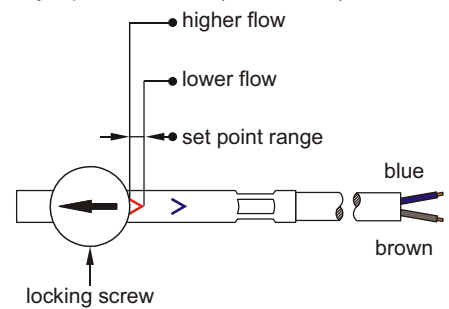
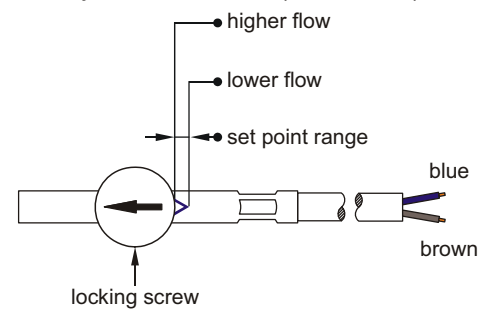

Fig. 20
Fig. 21
- ✎ Subsequently position the switching unit until the red (Fig. 20) or the blue arrow (Fig. 21) are visible at the entry of the switching unit guide for a desired make or break contact respectively (not required for change-over contact).